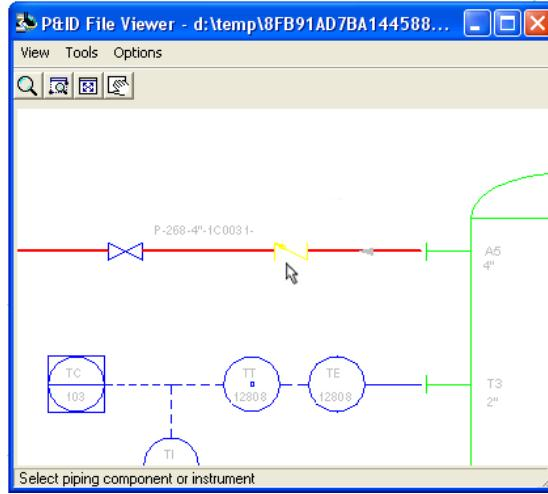

Figure 26: Check Valve in the P&ID File Viewer Window
17. The **P&ID File Viewer** window appears. In the **P&ID File Viewer** window, click the check valve, as shown in Figure 26.